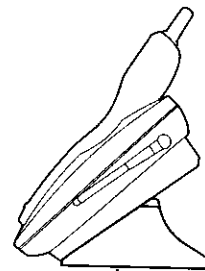

FIGURE 2
2. **30° POSITION** (See Figure 2):